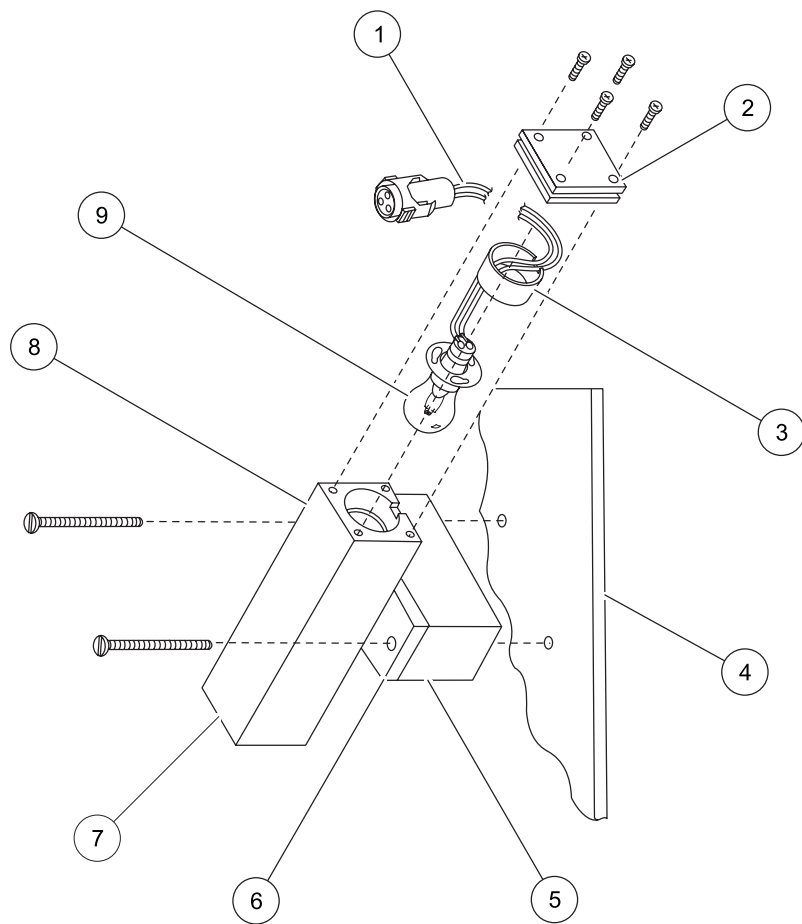

Figure 16 Lamp replacement
3. Remove the two screws that secure the lamp source assembly to the back plate. Remove the lamp source assembly (Figure 16).